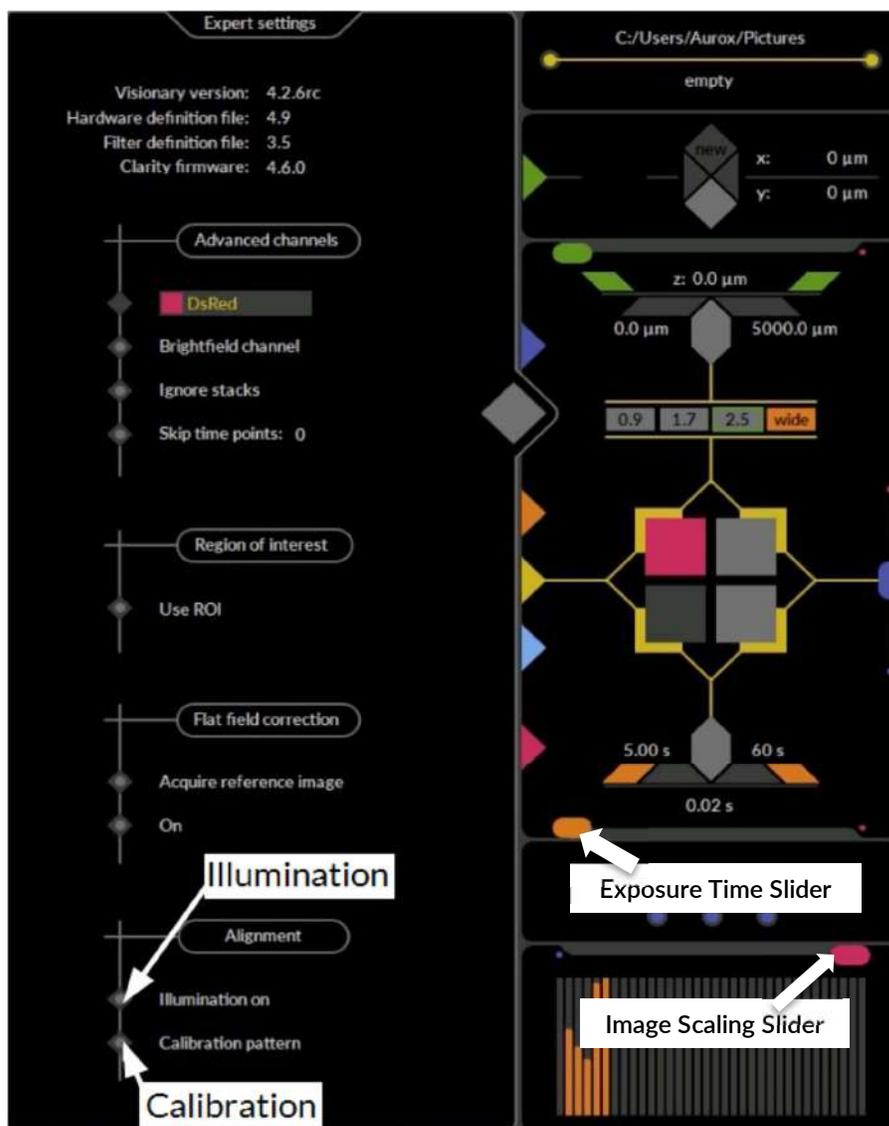

Figure 5.4.9(a) Expert mode controls
5. Click the 'illumination on' radio button in Visionary as shown in figure 5.4.9(a). It may be helpful to place a sample on the stage at this point to provide additional contrast.
6. Two fields of view will now be visible as shown in figure 5.4.9 (c). Rotate the camera by hand until the black central stripe is vertical, as shown in figure 5.4.9 (c). Lock the camera into place using the locking screw shown in figure 4.7.9 (d)